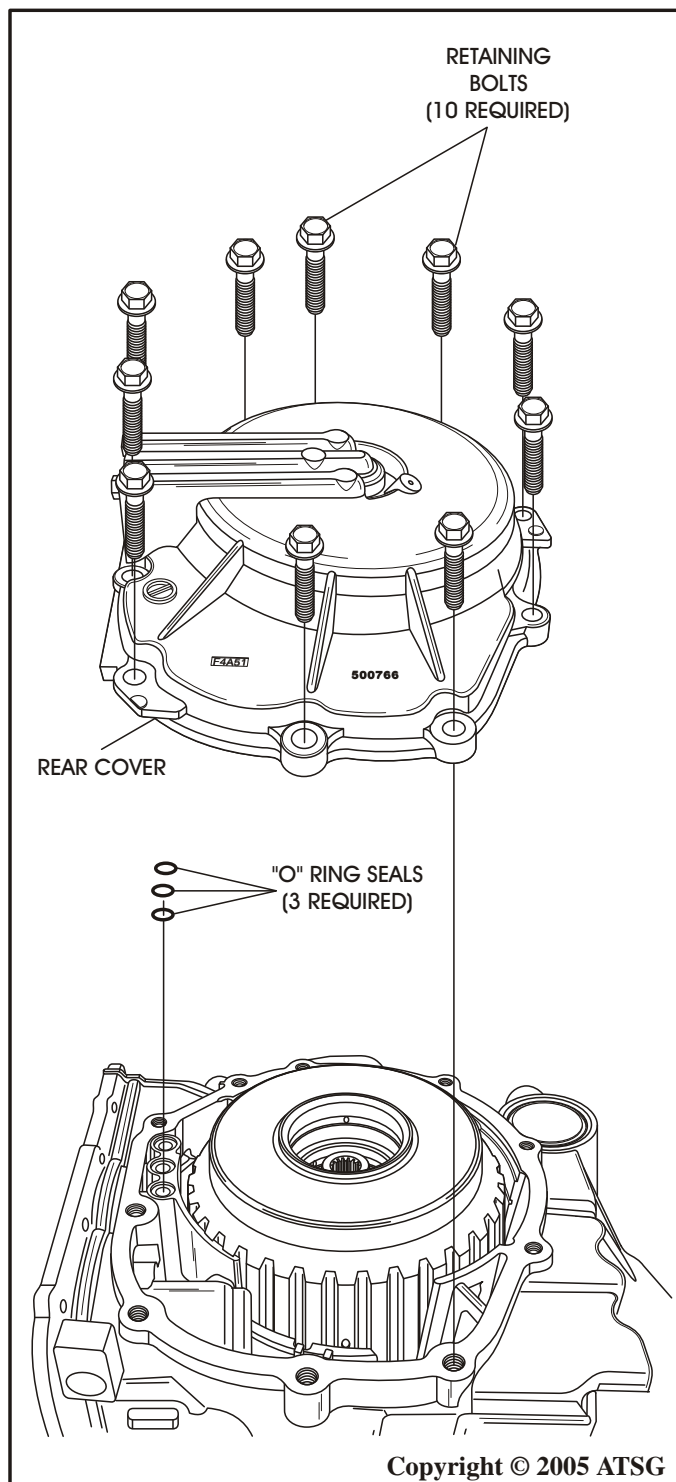

Figure 44
35. Remove the ten rear cover retaining bolts, as shown in Figure 44, and remove the rear cover.
37. Remove and discard the 3 rear cover to case "O" ring seals, as shown in Figure 44.